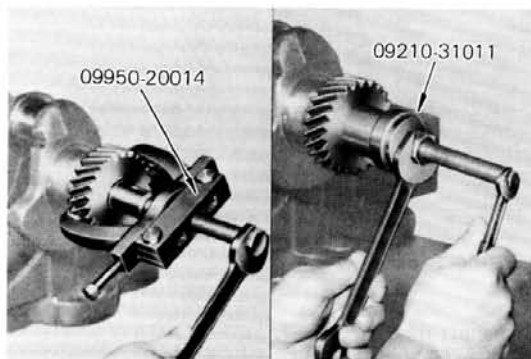

Fig. 1-50 Replacing Timing Gear
2. To remove and install the timing gear, use the universal puller 09950-20014 and the Timing Gear Tool Set 09210-31011 as shown in figure 1-50.